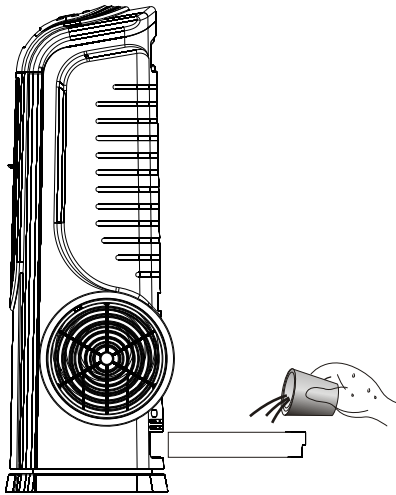

Fig.3
3. **Water Filling:** It is necessary to fill the water tank with clean water before operation. Also ensure to add clean water if the unit has not been in use for a while. Following Fig.3, First pull out the water tank, then fill it with clean water until maximum capacity is reached. Then close tank securely (NOTE: The power supply should be disconnected before filling water in order to prevent electrical parts from being damaged.)